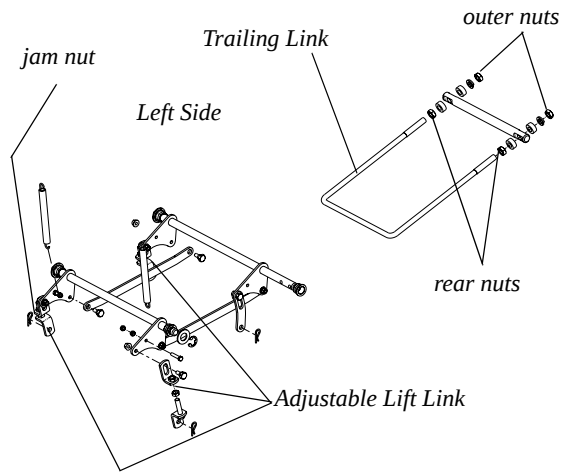

Figure. 5
- c. If the dimension at the front of the mowing deck is 1/8"-1/4" lower than the dimension at the rear of the deck (pitch) on each side of the mower, do not adjust. If not, you will need to adjust the Lift Links (See Figure 5).